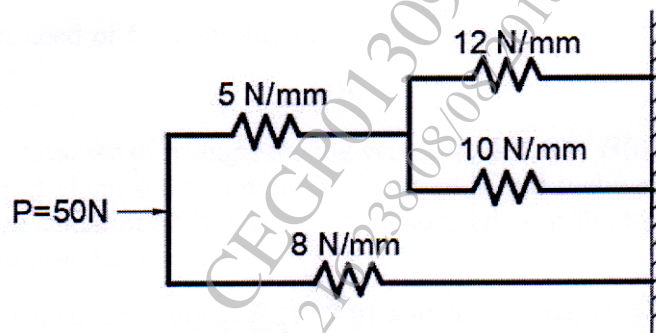

Figure 2 : Q 6(a)
- Q6) a)** For the Axially Loaded Spring System as shown in figure 2, determine (i) Nodal displacements, (ii) Deformation of each spring. [6]